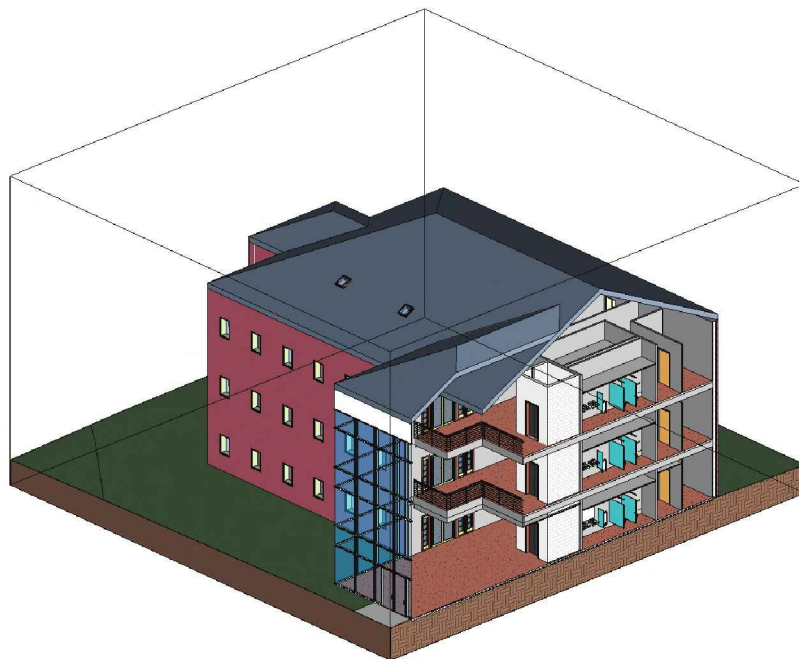

FIGURE 13-3.3
- Now re-adjust the **Section Box** to look similar to **Figure 13-3.3**. Notice toilet room is visible.